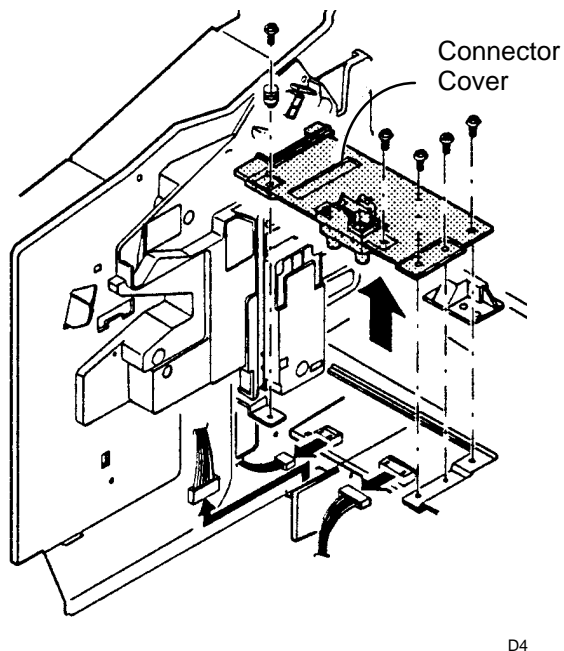

Figure 1. Removing the Connector Cover
2. (Figure 1): Remove screws and remove the Black Developer Connector Cover.